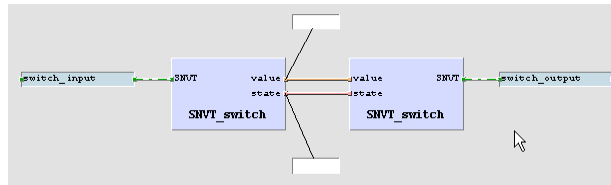

Figure 22: Online Test fields
- Place the fields above and below the drawing as shown in Figure 22, then press the **Save** button to save your changes.